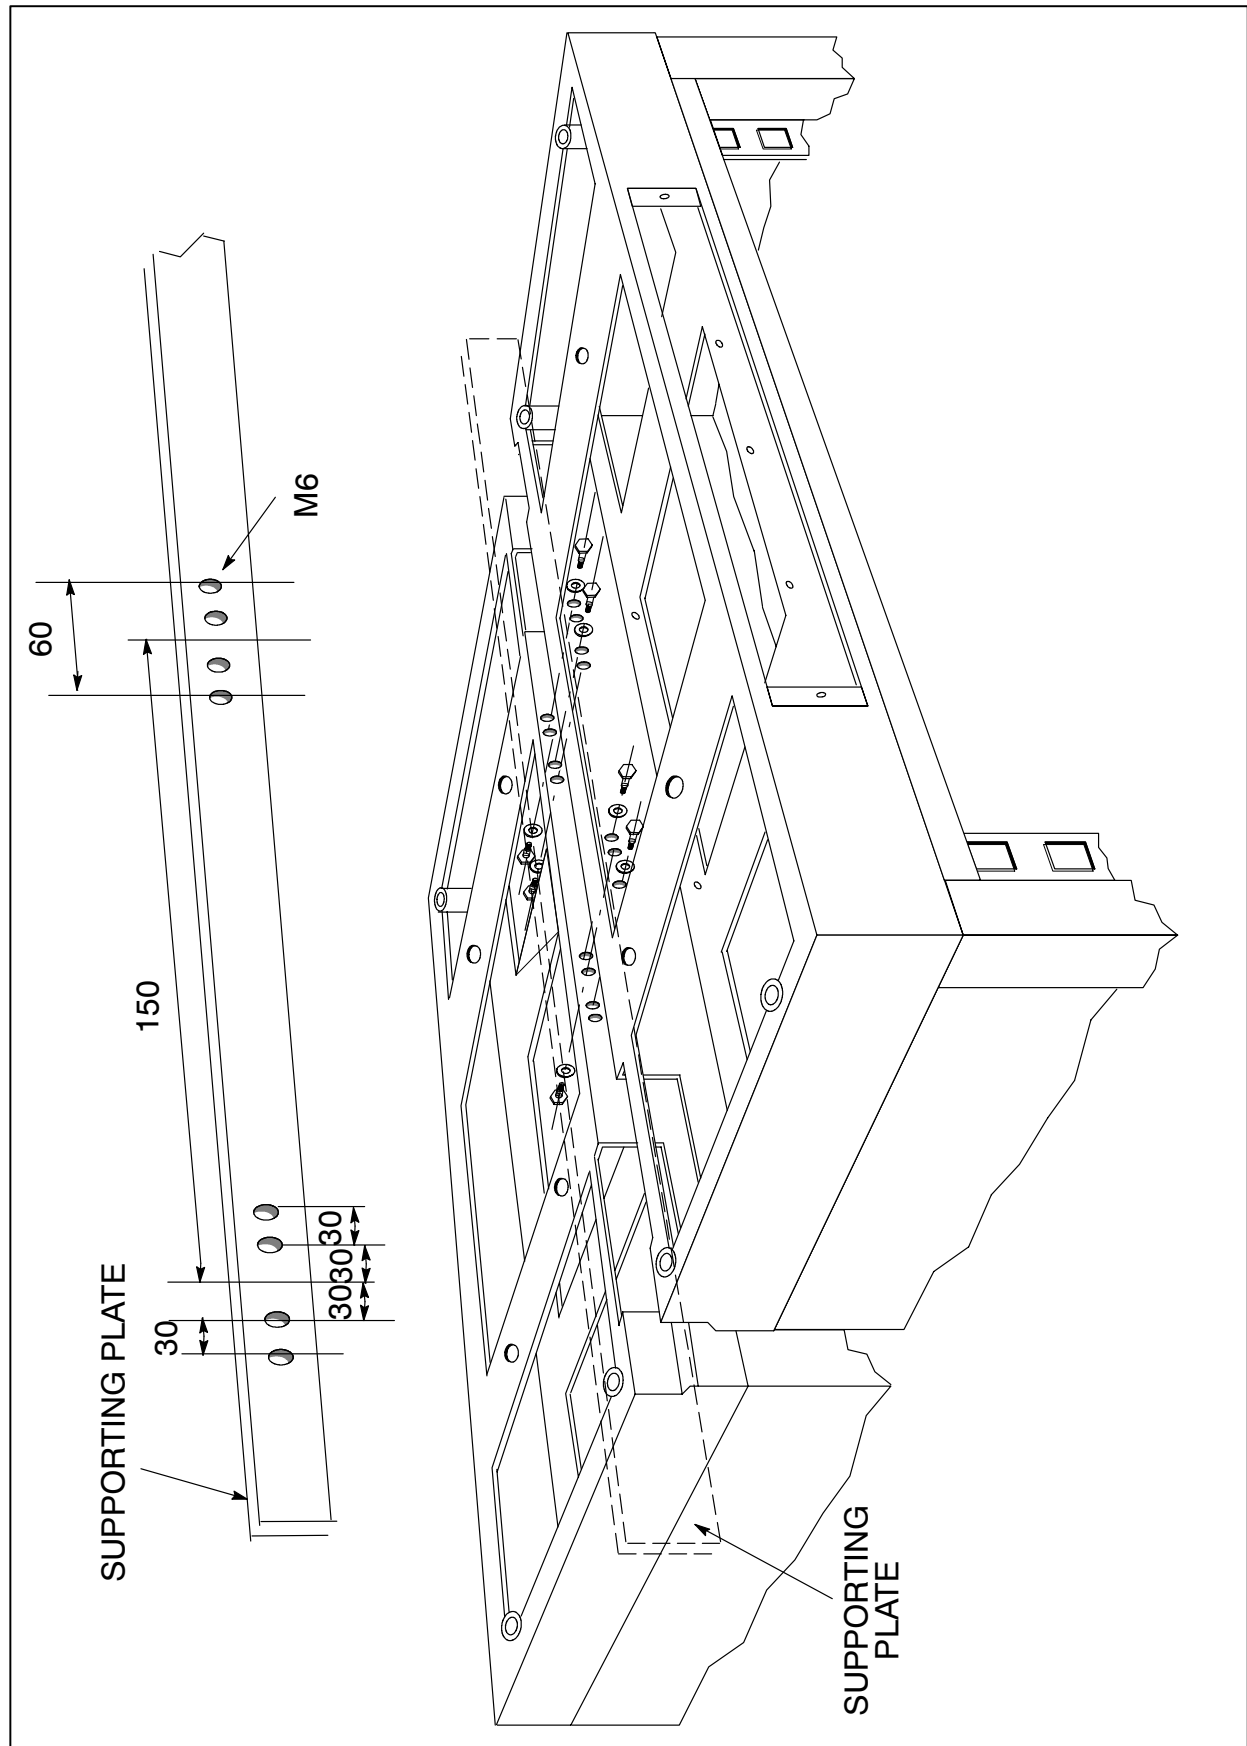

Fig. CC-10 Back-to-back mounting – view of top elements and supporting plate
- *for back-to-back mounting (not supplied) (Fig. CC-10) .*
3. Place the supporting plate between the top elements of the two back-to-back racks making sure that the holes of the top element and supporting plate are perfectly aligned (Fig. CC-10). The supporting plate has four threaded holes for each rack. Use the even holes for one rack and the odd ones for the other.